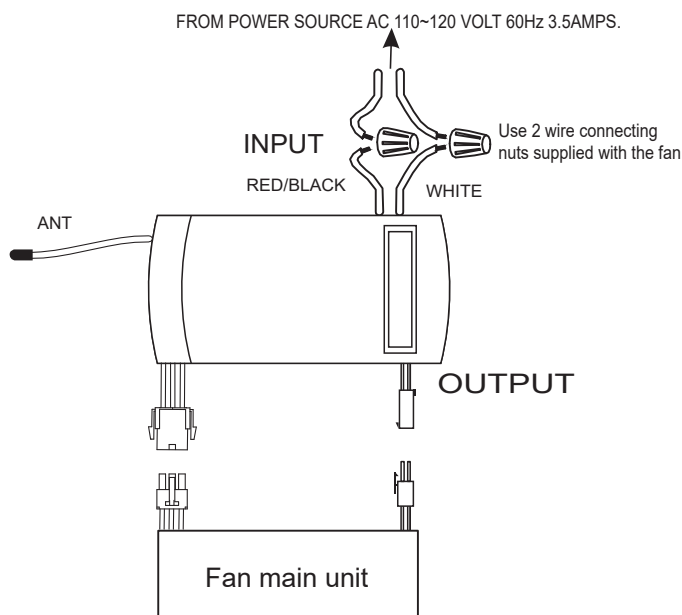

FIG.1
2. For installing the outlet box, secure it directly to the building structure. Use appropriate fasteners and building materials. The outlet box and its support must be able to fully bear the moving weight of the fan (at least 100lbs). Use a UL listed metal outlet box instead of plastic ones. Figure 1 & 2 show the examples of mounting the outlet box.
- Make connections as follows, using the wire nuts supplied: (FIG.1)